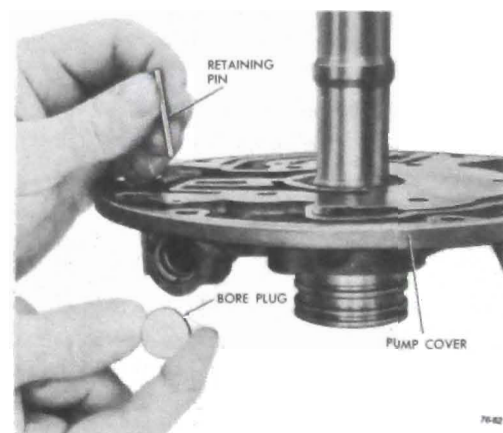

Figure 76-624
8. Remove the retaining pin and bore plug from the pressure regulator bore. See Figure 76-624.